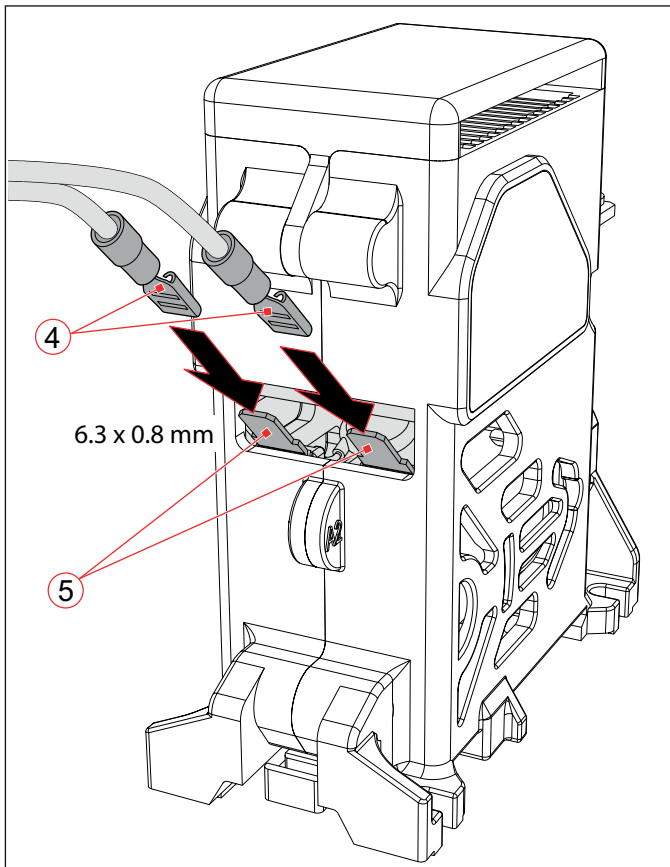
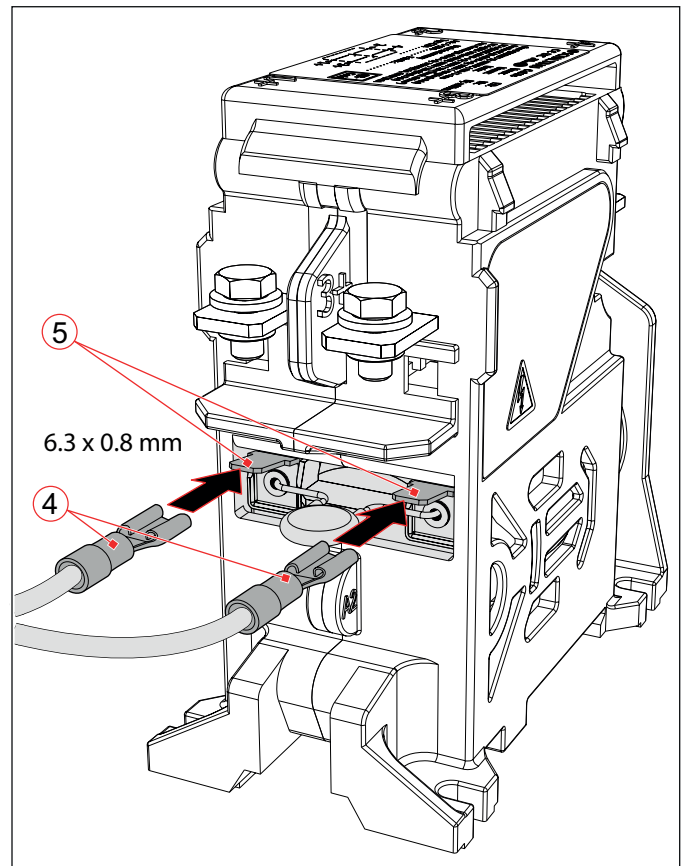

Fig. 11: C193 series: Connect the coil terminals
Fig. 12: C294 series: Connect the coil terminals
- ▶ Move and lay the control wires and flat receptacles only in plugging direction, see *Fig. 11* and *Fig. 12*.
- ▶ Plug the prepared control wires with the flat receptacles (4) to both coil terminals A1 and A2 (5).